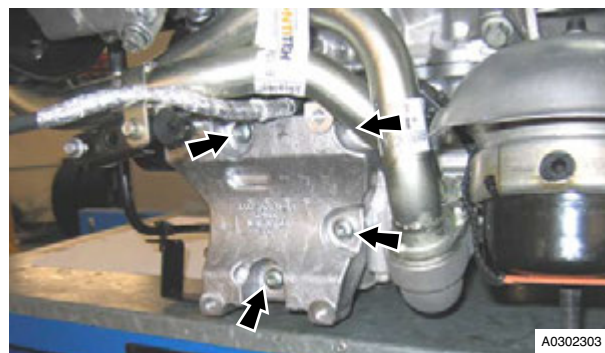

Figure 7
11. Remove Torx bolts (x4) that attach the A/C compressor mounting bracket to engine bedplate and sump. Remove bracket (refer to Figure 7).